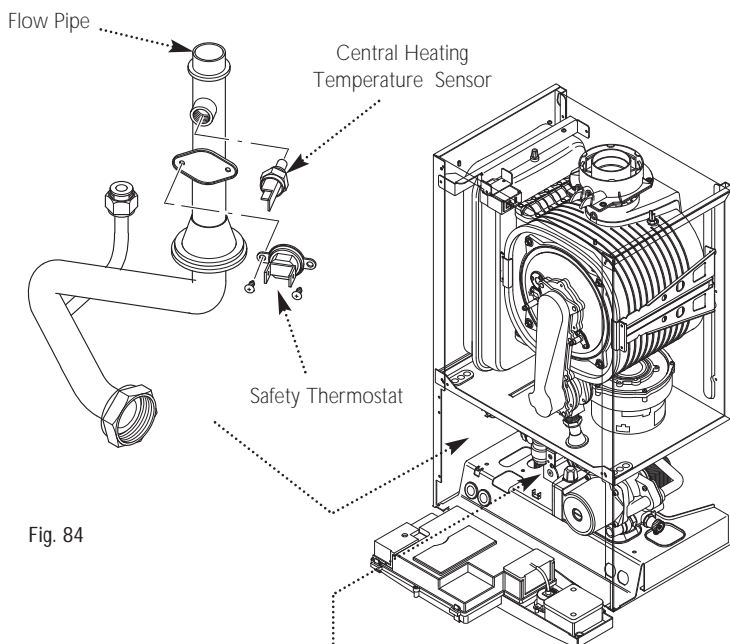

Fig. 84
- Important: When fitting the new venturi, ensure the arrows on it's base point into the collector (Fig. 84).
14.10 Central Heating Temperature Sensor (NTC) (Fig. 84)